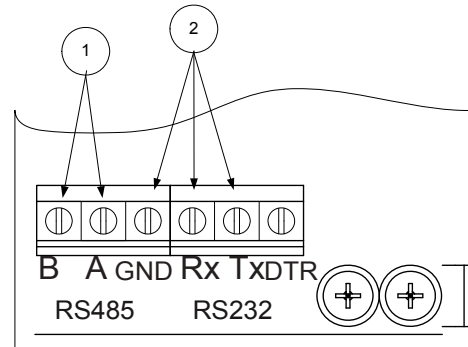

Fig.13
- if the interface is type RS232, connect the three-wire line to terminals Rx, Tx and GND pos.2 (Fig.13);
- if the interface is type RS485, connect the two-wire line to terminals „A” and „B” pos.1 (Fig.13).